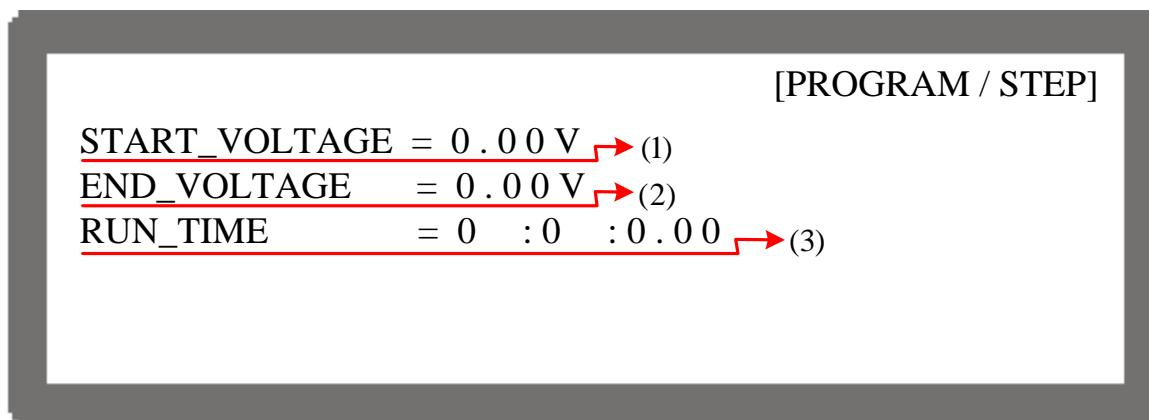

Figure 4-19
1. Use “”, “” keys to move the cursor to the column to be set as Figure 4-19 (1) shows. Set the start voltage of STEP MODE.
1. Use “”, “” keys to move the cursor to the column to be set as Figure 4-19 (2) shows. Set the end voltage of STEP MODE.
1. Use “”, “” keys to move the cursor to the column to be set as Figure 4-19(3) shows. Set the run time of STEP MODE. The time format is HOUR:MIN:SEC and the maximum setting is 99 hours 59 minutes and 59.99 seconds.